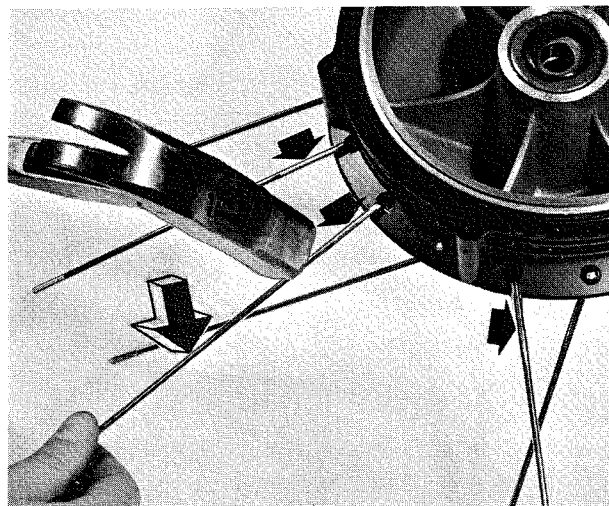

Fig. 8
8. To make the assembling of the wheel rim easier you should bend the spokes assembled from down with a hammer or similar. See figure 8.